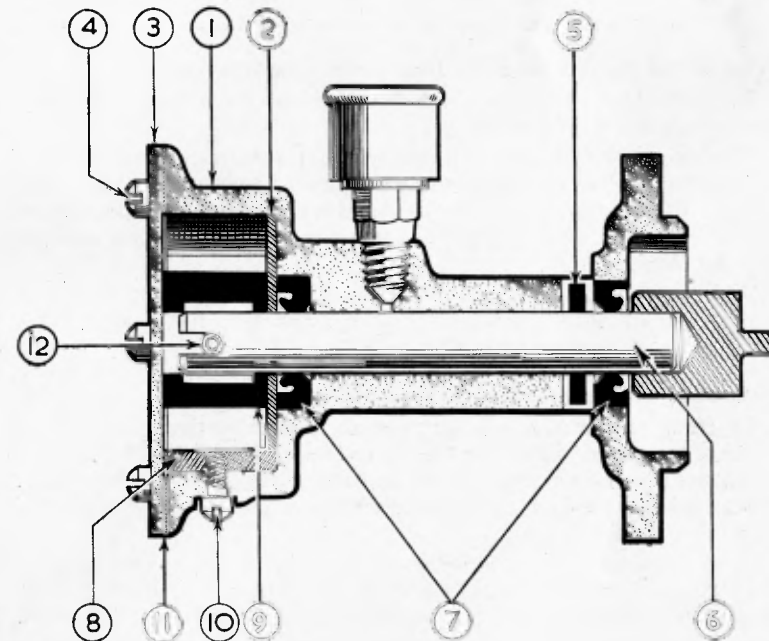

Fig. 49
Referring to Fig. 49, unscrew the six securing screws (4), remove the end cover (3) and the end cover gasket (11). Withdraw the impeller (9) complete with set screw (12) from the pump shaft (6) and remove the impeller wear plate (2) from the pump body (1).